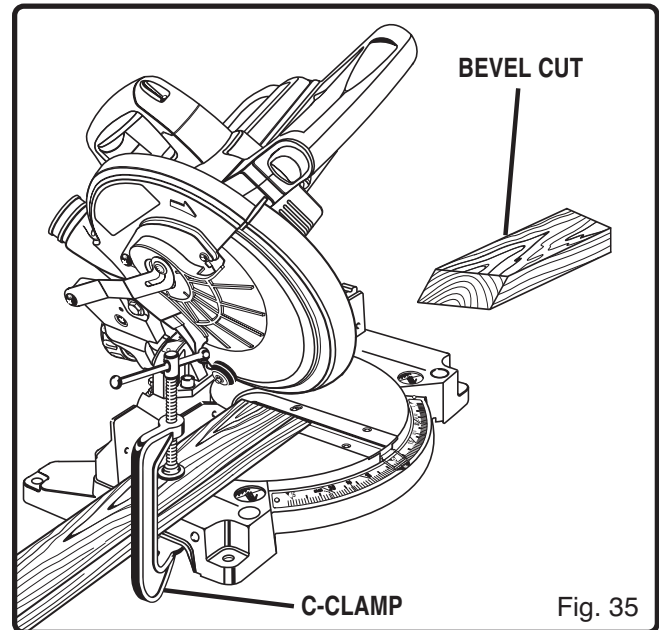

Fig. 35
- Grasp the stock firmly with one hand and secure it against the fence. Use the work clamp or a C-clamp to secure the workpiece when possible. See Figure 35.
- Slowly lower the blade into and through the workpiece. See Figure 35.